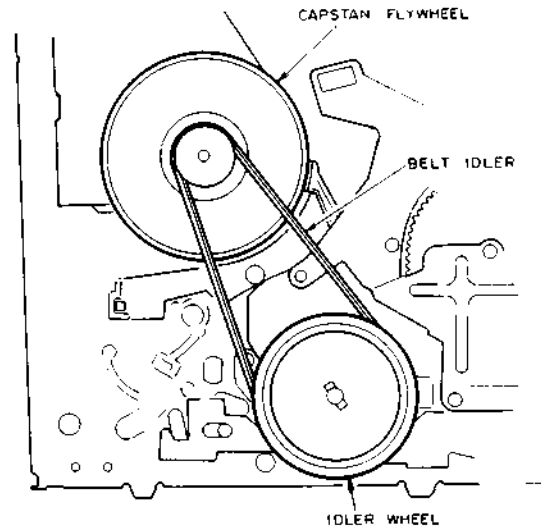

Fig. 4-15
- 11) Attach the BELT IDLER as shown in Fig. 4-15.